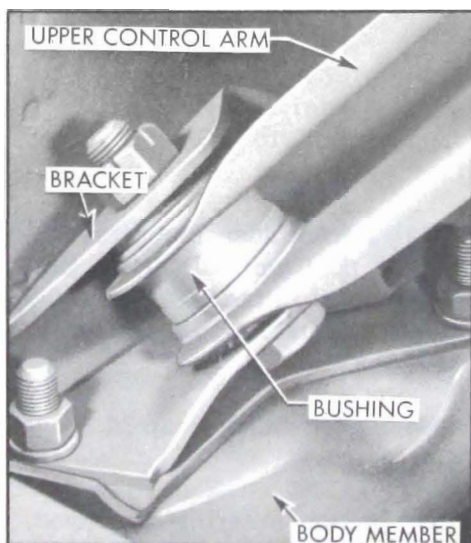

Figure 7-32—Rear Upper Control Arm Front Attachment
3. Disconnect control arm at front bracket by removing arm bolt and lock nut and remove upper control arm. See Figure 7-32.